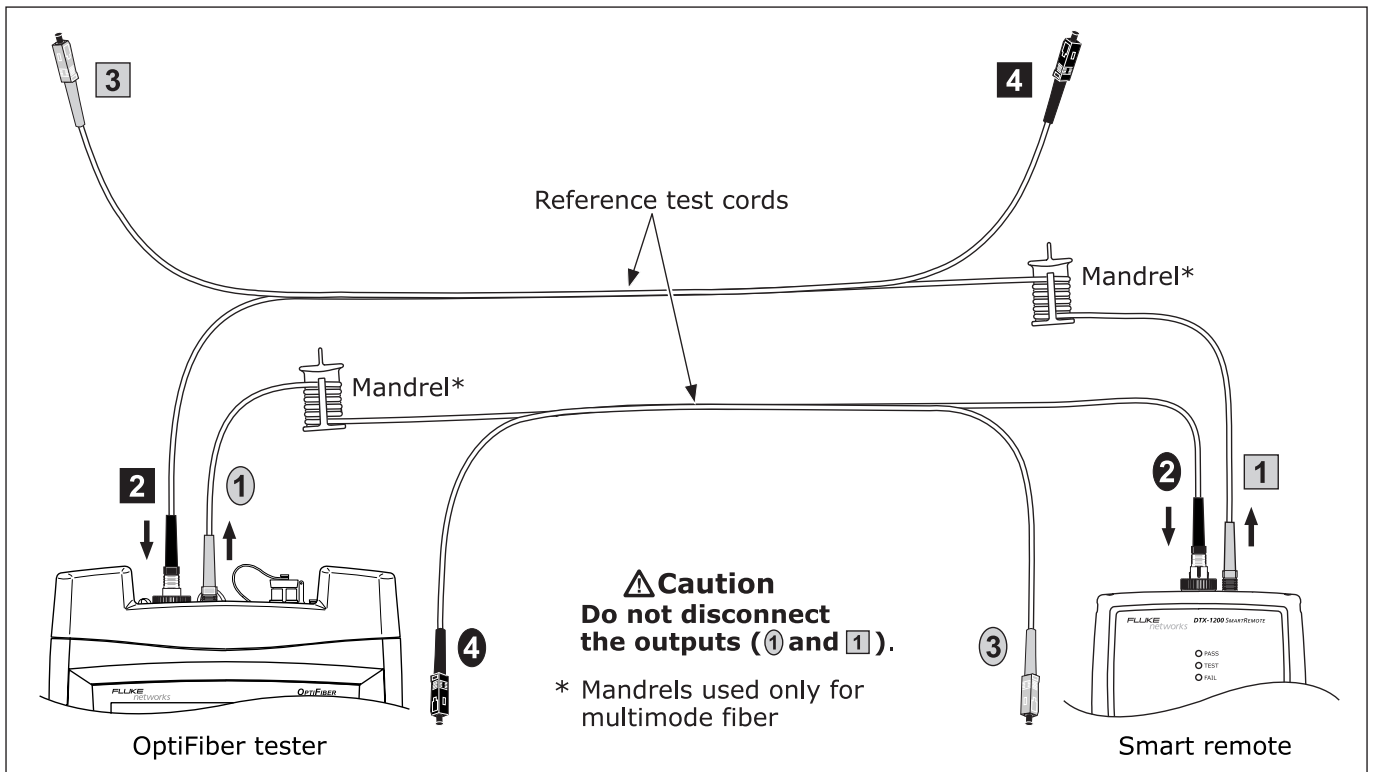

Figure 2-3. Smart Remote Mode Reference Connections
- Two known-good duplex reference test cords of the same fiber type as the cabling to be tested. See Figures 2-3 and 2-4 to determine the connector types you will need.
- 4-3 Connect the main and remote testers as shown on the **SET REFERENCE** screen and in Figure 2-3; then press **ENTER**.